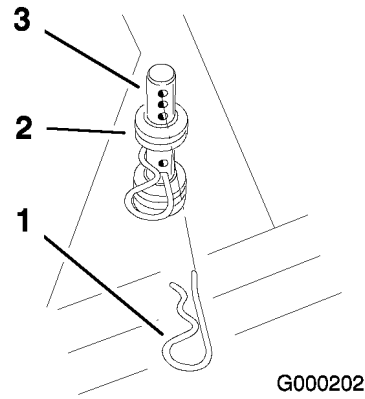

Figure 14
4. On the opposite side of the muffler, install unused spacers onto front and rear height-of-cut pins and insert the hairpin cotter pins (Figure 14).